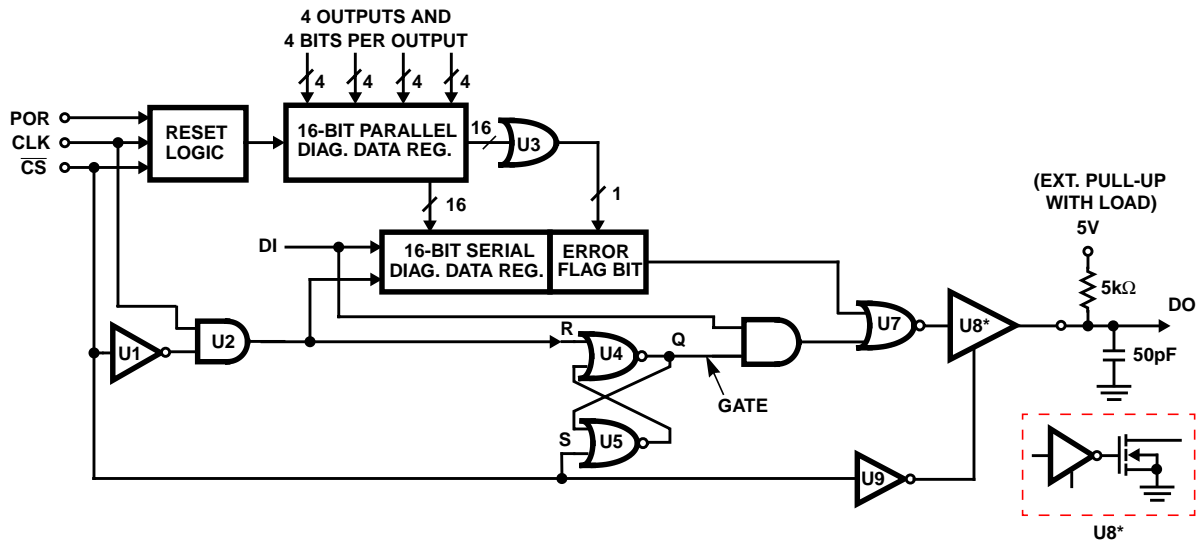
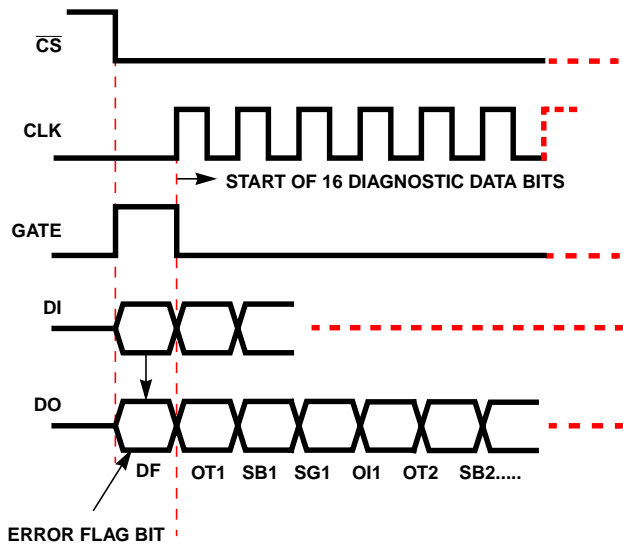

FIGURE 1. DIAGNOSTIC INTERFACE LOGIC
FIGURE 2. DATA AND CLOCK TIMING
HIP0080, HIP0081 Referring to Figure 1 and Figure 2, there are two sources that generate an OR'ed Fault Flag at DO when \overline{CS} goes low. The two fault data sources are (1) the on-chip fault detection and (2) the off-chip DI input from front end ICs in the cascade. The fault data bit, labeled DF (Data Fault) in Figure 2, contains the OR'ed inputs from both sources. The DF bit is not part of the 16-bit serial diagnostic data sequence. In cascaded operation, the DI input for the first of the selected chips should be tied low. And, in single IC operation (no cascade), the DI input should also be tied low. In cascaded operation, the Error Flags are cascaded via the DI inputs.
HIP0080, HIP0081 The last IC in the string ORs its own 16 fault bits in the parallel diagnostic register data and sends this data bit to an Error Flag register. The Error Flag register outputs the presence of a fault in one or more bits of the parallel diagnostic data register. As shown in Figure 2, the Error Flag is the first bit in front of the serial register and is input to OR Gate, U7 with the DI input. The DI input passes thru AND Gate, U6 when the GATE signal is high and output via the amplifier U8 to DO. The output amplifier U8 is active only while \overline{CS} is low. When \overline{CS} is low, the RS Flip-Flop drives the GATE output high. When the GATE is high, the cascaded DF bits are jammed from DI to DO. All Error Flags in the cascade are cleared (by the CLK input) when the serial diagnostic data is clocked out of DO.
HIP0080, HIP0081 Technically, the HIP0080 and HIP0081 fault data has only 16 bits. Except for the Error Flag, DF data bit shown in Figure 2, the format matches that of a normal CPOL = 0, CPHA=1 SPI protocol (polarities, phase, etc). The DF bit from the DO output is active only until the clock starts. The best way to take advantage of it (if desired) is to connect the DO to the SPI bus, and also to a port pin, or other logic input. After CS goes low and before the SPI clocks starts, the DF bit can be read. If it is a zero, then the rest of the data does not have to be read. (The data will be all 0's = no errors). If the DF bit = 1, then the data must be read to find out which bit(s) is set.